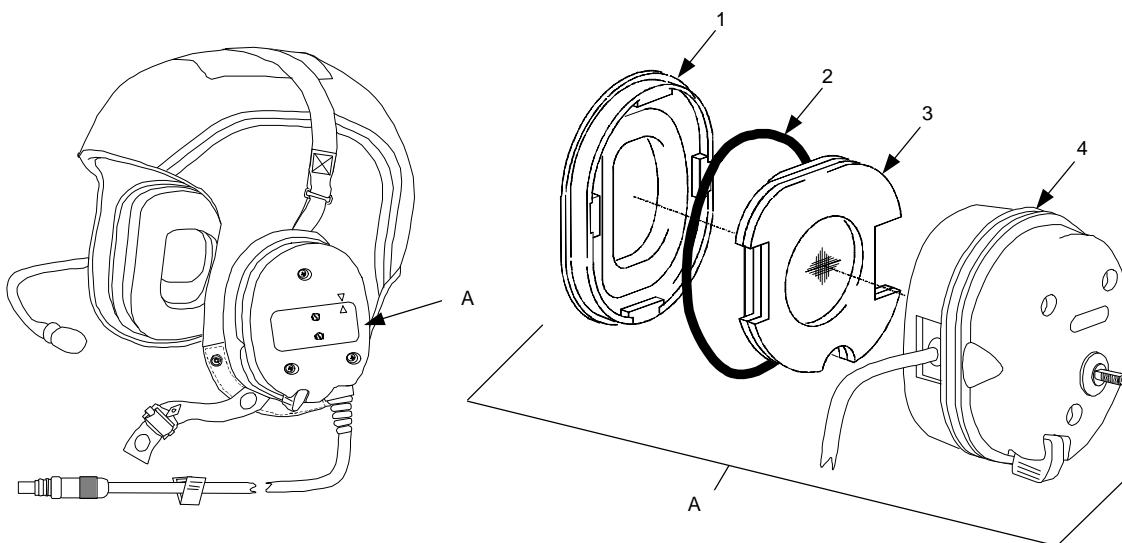

Figure 3-12. Earcushion and Front Foam Assembly
3.8.2. Earcushion, O-Ring and Front Foam Assembly Removal and Replacement (Fig. 3-12)